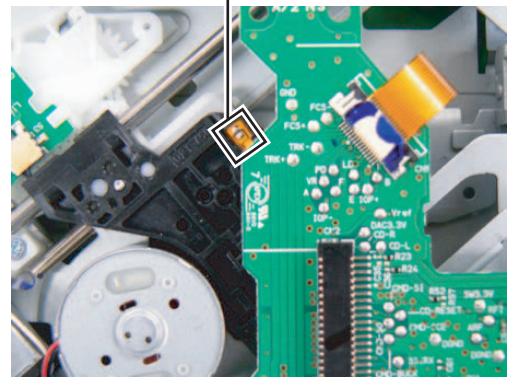

Fig.1
3.2.1 Removing the CD MECHA PWB ASSY (See Fig.1 to 3)
(1) Solder the short land on the Pickup. (See Fig.1)